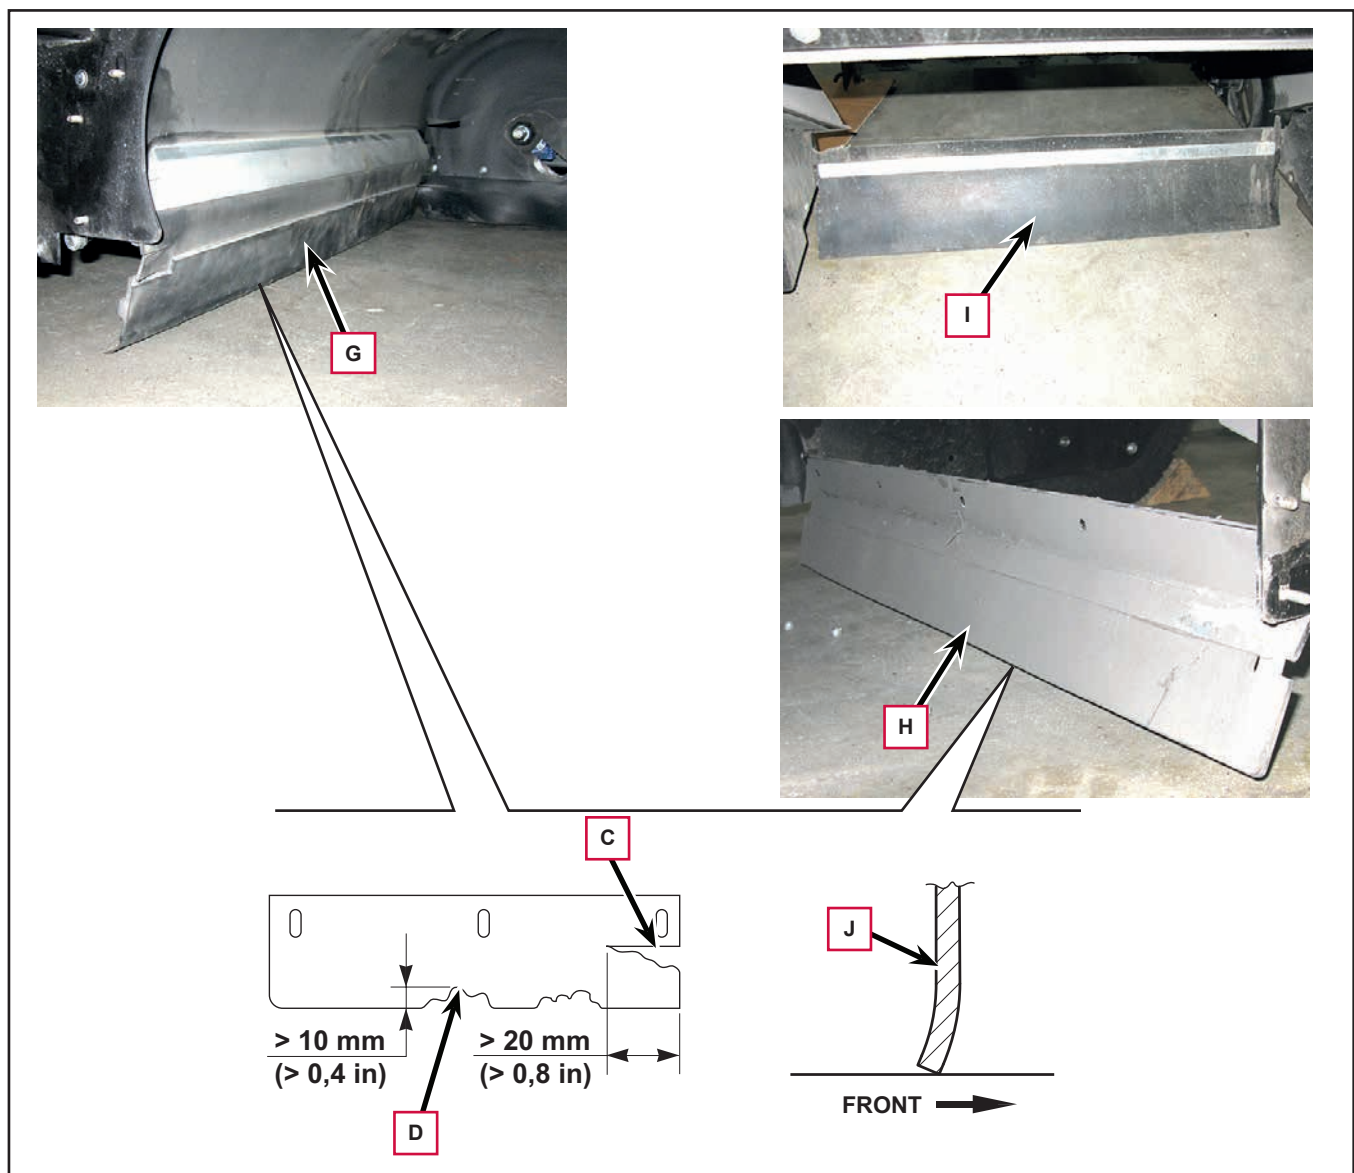

Figure 7
2. Check the condition of the front (G, Fig. 7) and rear skirts (H) and (I).